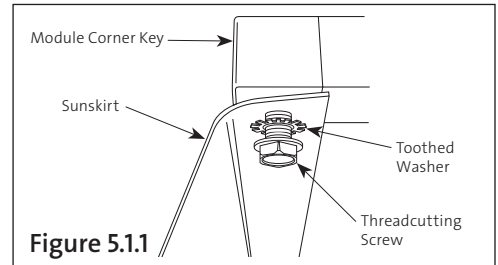

Figure 5.1.1
5.1.1. Align the left edge of the module with the left edge of the Sunskirt. Place the Toothed Washer (EC1151) on the Thread-Cutting Screw (EC1200). Insert screw through Sunskirt's hole and into the corner key's hole. Tighten to 32 in-lbs. Refer to **Figure 5.1.1**. Repeat for all modules on the bottom edge of the array.